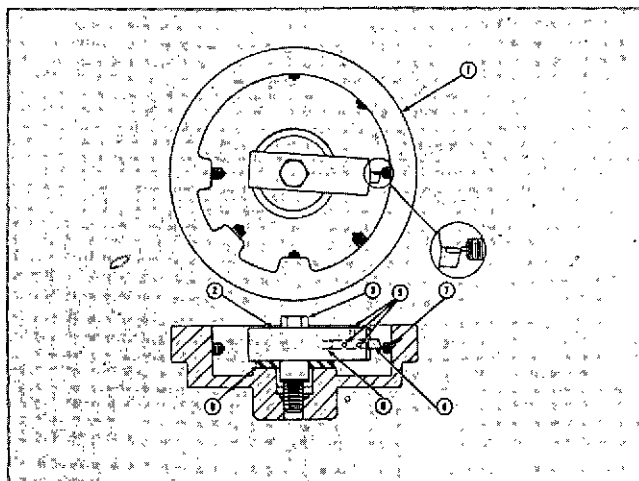

Fig. 1-1-34, V40161. Presetting tool bit
1. Loosen two setscrews (5, Fig. 1-1-34).
2. Install tool bit (4) into tool holder (2), being sure that spring (6) is in place.
4. Lock one setscrew (5).
5. Position spacer (8) over locating diameter of tool holder.